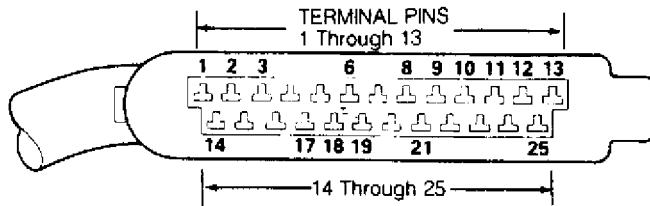

Fig. 3: ECU Connector Terminal ID
Using Multimeter (US 1119), check resistance of ground connections for ECU. Remove ECU connector. Check continuity to ground on terminals No. 13 and 19. See Fig. 3. Resistance should be zero ohms. If resistance is not zero ohms, repair open or short in wiring.
1) Turn ignition off. Disconnect ECU connector. Turn ignition on and, using a voltmeter, check for battery voltage between ECU connector terminals No. 13 (negative) and No. 14 (positive). See Fig. 3. If battery voltage is not present, repair wiring as required.
Using Multimeter (US 1119), check resistance of ground circuits for ECU. Remove ECU connector. Check continuity to ground on terminals No. 2 and No. 9. See Fig. 3. Resistance should be zero ohms. If resistance is not zero ohms, repair open or short in wiring.
Turn ignition off. Disconnect ECU connector. Turn ignition on and, using a voltmeter, check for battery voltage between ECU connector terminals No. 2 (negative) and No. 1 (positive). See Fig. 3. If battery voltage is not present, check fuse No. 23 on fuse block. If fuse is okay, check CIS-E ECU connector to fuse box wiring for open.
1) Turn ignition off. Remove Electronic Control Unit (ECU) connector. Attach ohmmeter to ECU connector. See Fig. 3. Resistance should correspond to ECU PIN CHECK in AFC-DIGIFANT AIRFLOW SENSOR RESISTANCE table.
Turn ignition off. Use a thermometer to measure coolant temperature. Unplug connector from Electronic Control Unit (ECU). Attach an ohmmeter between terminals No. 6 and No. 10 of ECU connector. See Fig. 3. Resistance should decrease as coolant temperature increases. See COOLANT TEMPERATURE SENSOR RESISTANCE table. Replace sensor if resistance is NOT within specification.
3) If CO reading does not rise, check for continuity between O2 sensor wire and terminal No. 2 of ECU. See Fig. 3. If continuity exists, replace ECU. For more information, see J - PIN VOLTAGE CHARTS and K - SENSOR RANGE CHARTS articles in the ENGINE PERFORMANCE Section.